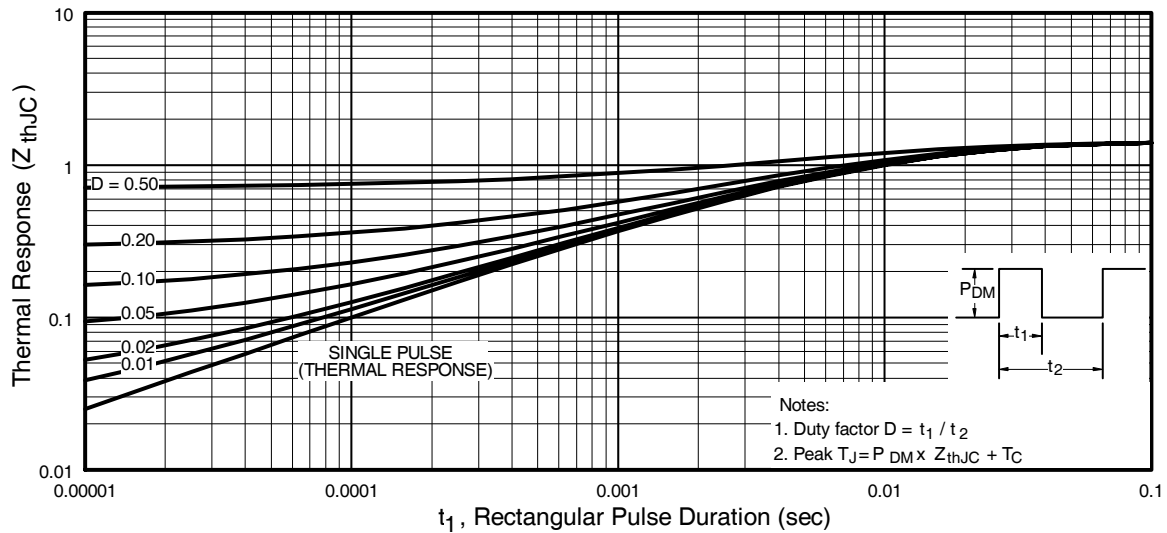

Fig 11. Maximum Effective Transient Thermal Impedance, Junction-to-Case
- ① Repetitive rating; pulse width limited by max. junction temperature. (See fig. 11)
- ② V_{DD} = 15V, starting T_J = 25°C, L = 300μH